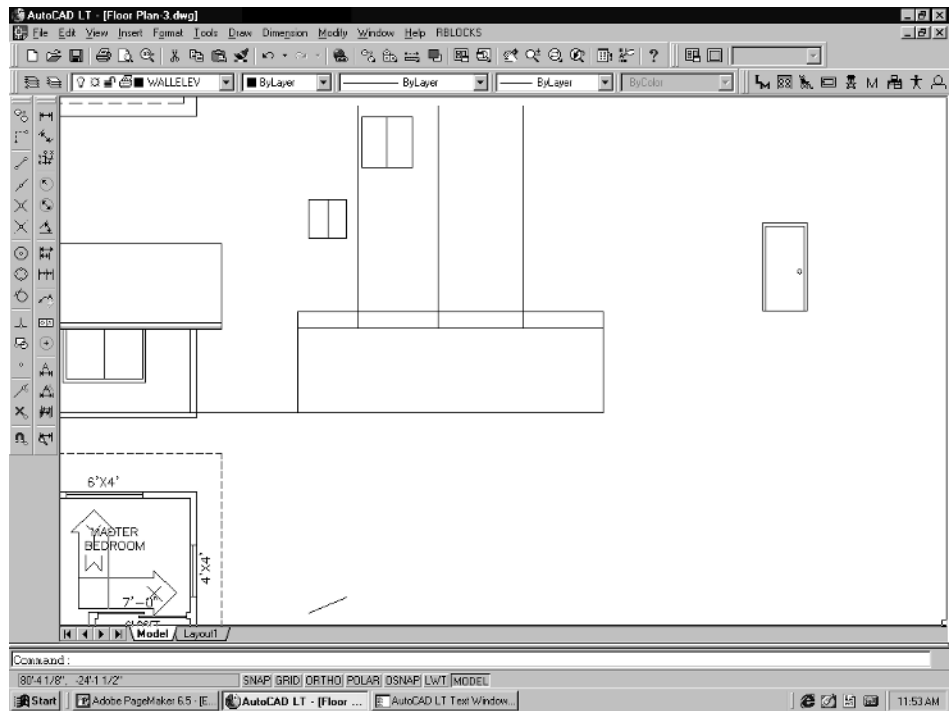

Figure 4-28
7. Pick these elements and hit **Enter**. Pick a base point anywhere in the center of these items. Pan back over to the new elevation and for the *Second point of displacement* prompt, pick a point near the new elevation. Then move the windows into place, using the same methods you have used for the other elevations. See Figure 4-28.